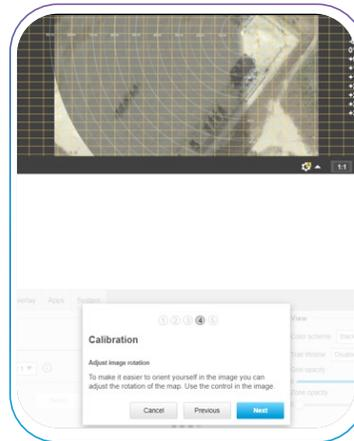

Figure 20. Calibration Step 4 of 5
G. If needed, a rotational adjustment can be made to the image (**Figure 20**). After adjusting the image or if no rotation is needed click on **Next** to proceed.